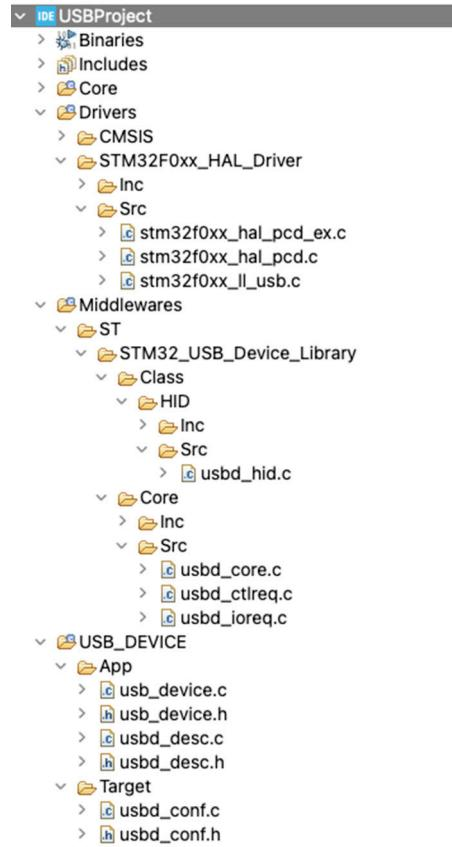
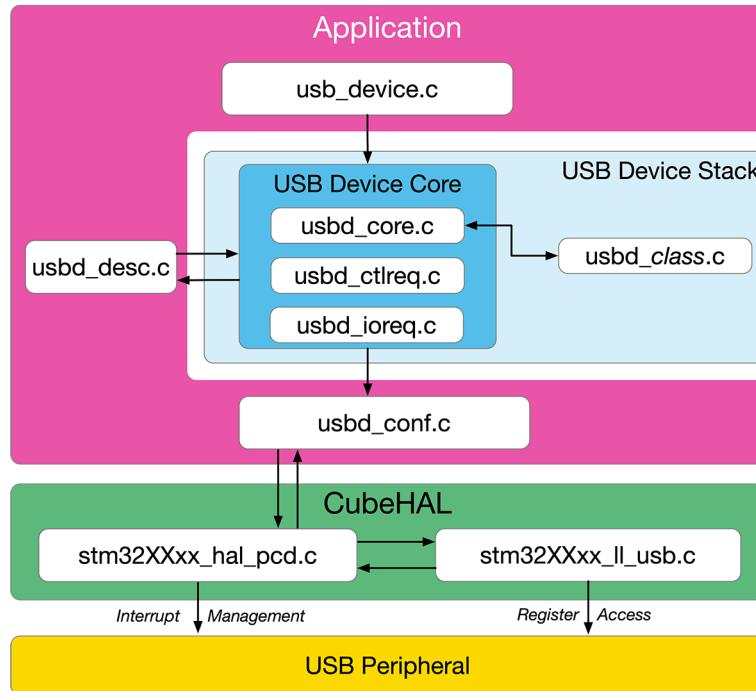

Figure 12: Structure of the generated project
Figure 13: Architecture of the generated application with STM32 USB Device Library
The **Figure 12** shows the new project structure once that CubeMX generates the code with the USB Device library and the wanted USB class10. At the same time, the **Figure 13** shows the whole application architecture: keep it on hands while reading the rest of this paragraphs.
- **Class/<class>**: this folder contains all C source and header files related to the selected USB Class. For example, in Figure 12 you can see the file `usbd_hid.c` containing all the necessary code to handle the HID class.